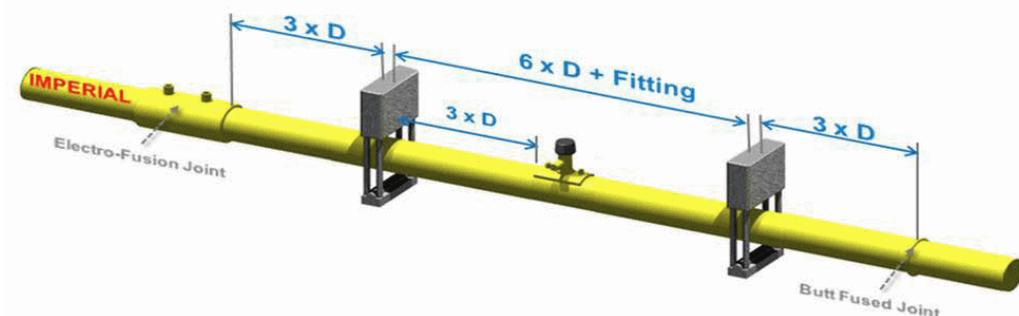

Figure 39- Minimum Squeeze-off Distances Imperial Sized Pipes
1. The minimum distance between a squeeze-off tool and a pipeline heat fused fitting, electro-fusion or butt fusion joint weld for imperial sized PE80 pipe remain unchanged as shown in Figure 39.